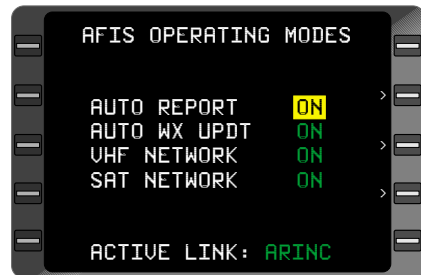

Figure 7-84
5. **BACK** Key - DEPRESS. **ON** appears in the cursor. (Figure 7-84)